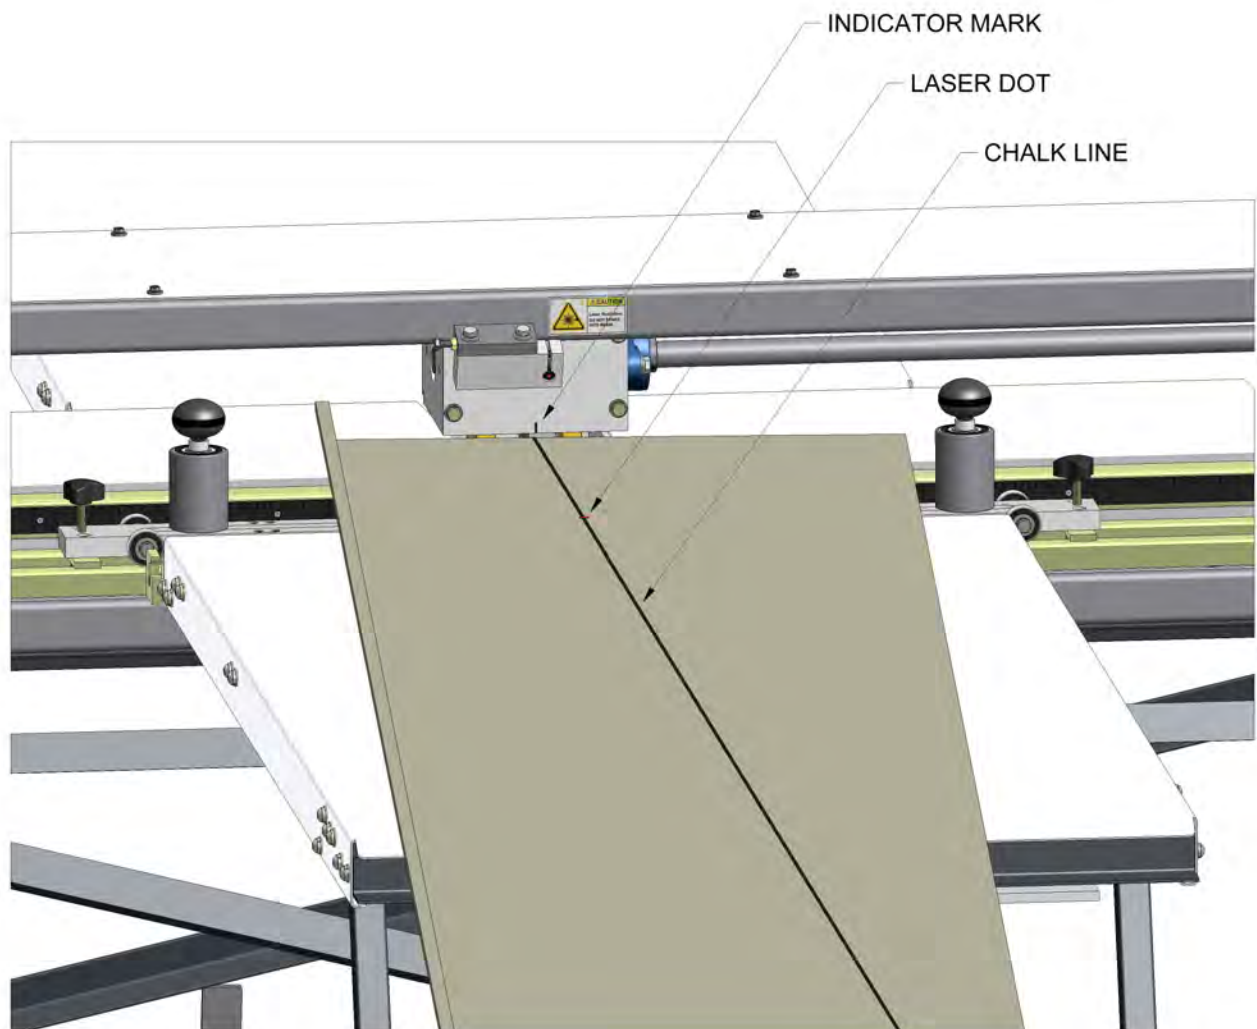

Fig. 6-3. Aligning The Panel Before Cutting
A. Once the cut line has been marked on the panel, lay it on the entry support table(s) and line up the chalk line with the indicator mark near the slitting knives, see **Fig 6-3**. Push the panel into the machine until it contacts the slitting knives.
B. Turn on the laser by pulling out the emergency stop button. Rotate the panel until the chalk line is directly under the laser dot, see **Fig 6-3**. Check that the chalk line is still lined up with the indicator mark and adjust if necessary.
2. Lay the panel on the entry-side support table and line up the mark on the panel to the indicator mark near the slitting knives and laser dot, as shown in **Fig. 6-3, Page 12**.